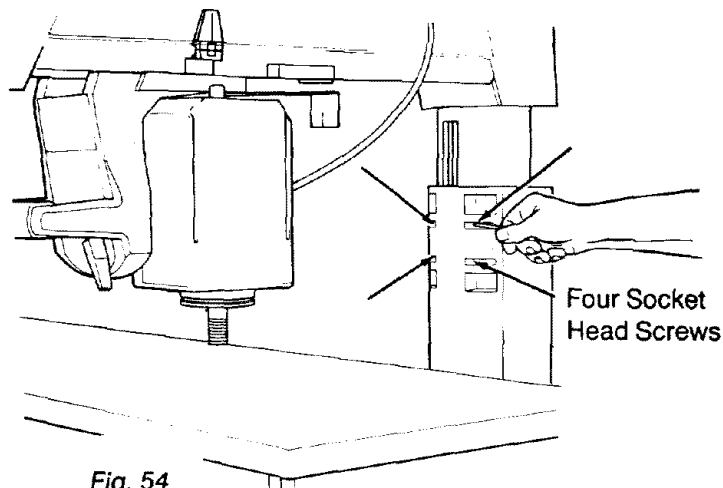

Fig. 54
11. Use a $3/16$ " hex “L” wrench to loosen the four screws in the front of the *column support* slightly, if you have not already done so in the *Adjusting Elevation* section. (Figure 54)